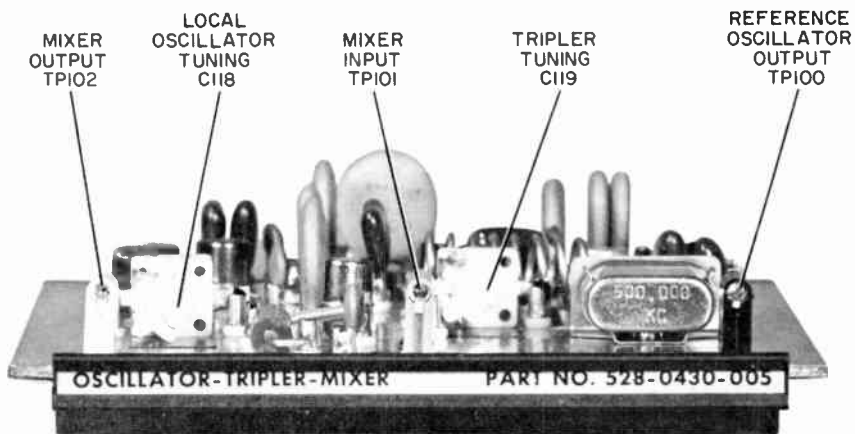

Figure 2-2. Test Point and Adjustment Locations of Oscillator-Tripler-Mixer Card A1
operating at the authorized power level. The transmitter sampling loop must be set to provide a 4- to 10-volt signal at the monitor input. Refer to figure 2-2 for location of adjustments. Perform the following procedures to align the 900C-1() at the new frequency.
d. Remove the monitor dust cover and wired circuit card holder cover. Place an oscilloscope between TP-102 (figure 2-2) and ground of the oscillator-tripler-mixer card to observe the 500-kc i-f signal.
e. Adjust C118 (figure 2-2) until an output is observed on the oscilloscope. This indicates that the local oscillator is in operation.
f. Adjust C119 (figure 2-2) until a peak amplitude indication is observed on the oscilloscope.